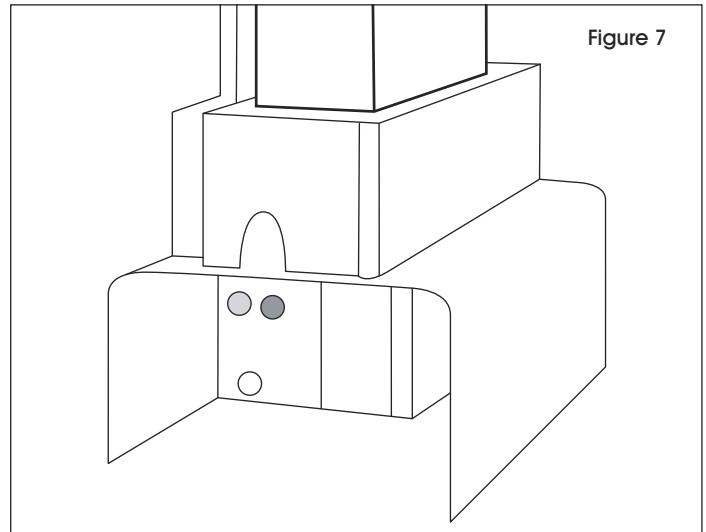

Figure 7
3. The charge indicator lights up. (See Figure 7)